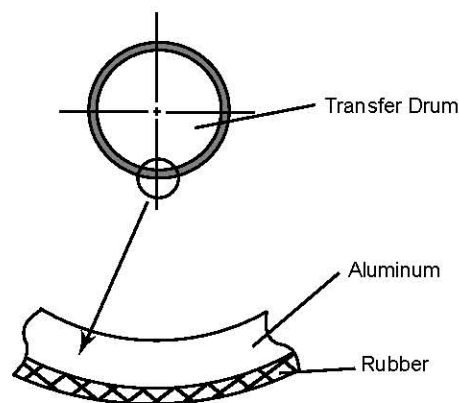

Fig. 4-17
- iii) Semiconductor rubber is used to provide the drum surface as shown in Fig.4-17.